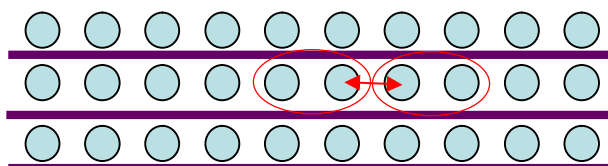
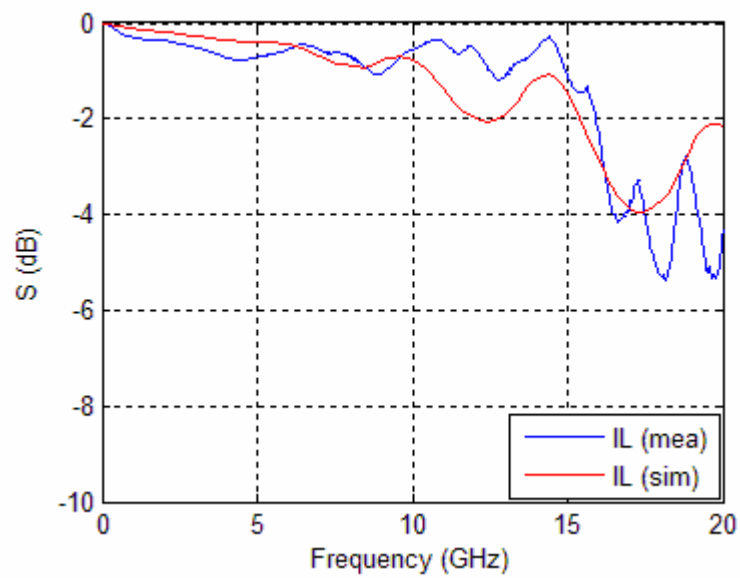

Figure 4-8
Figure 4-9 Differential insertion loss
Figures 4-9 to 4-11 show the measured vs. simulated differential insertion loss (IL), return loss (RL), near-end crosstalk (NEXT), and far-end crosstalk (FEXT) between two nearest neighbors in an IT3-25mm connector (Figure 4-8). Data at other stack heights are detailed in Section 4.5.